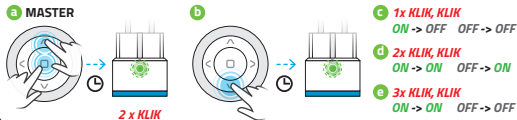

Fig. 13
2. On the remote control press and hold the **DOWN** button. - Fig. 13. until the **MOBILUS C-SWP** module releases the corresponding sequence of the relay switching signals: